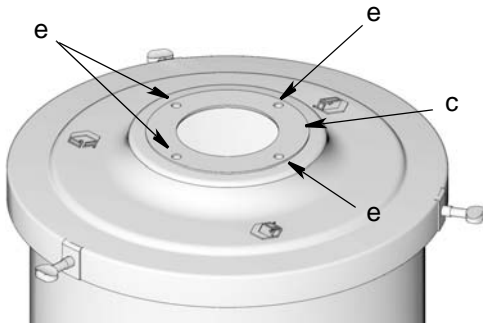

FIG. 7
- Verify gasket (c) is in place on top the reservoir cover, laying flat and that the holes (e) in the gasket align with the holes in the cover (FIG. 7).